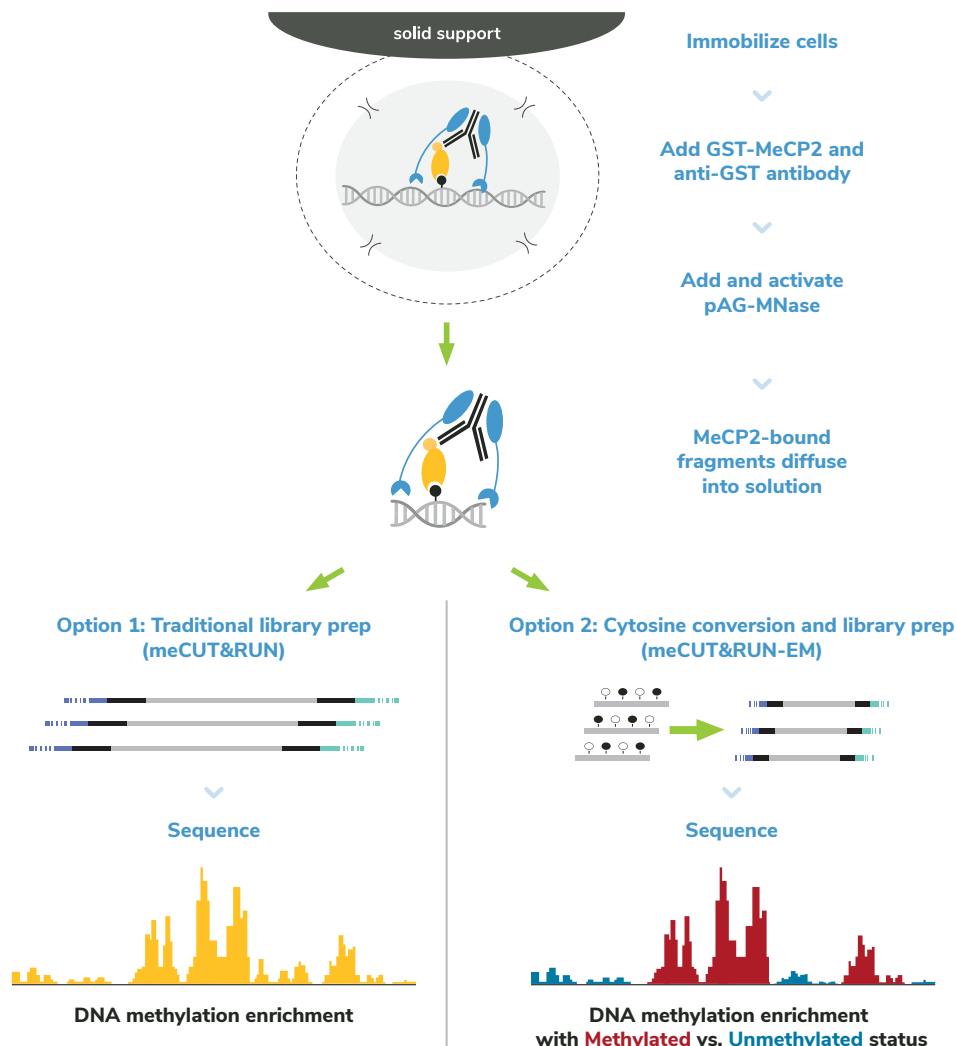

FIGURE 3
Here, we review the main steps of the CUTANA™ meCUT&RUN workflow (Figure 3).
- Users have two options for library prep (Figure 3). **Option 1 (meCUT&RUN)** uses a traditional library prep strategy for DNA methylation profiles with ~150 bp resolution, and requires 15-20 M total reads. **Option 2 (meCUT&RUN-EM)** uses an EM-seq cytosine conversion and library prep strategy for single-base resolution, and requires 30-50 M total reads.